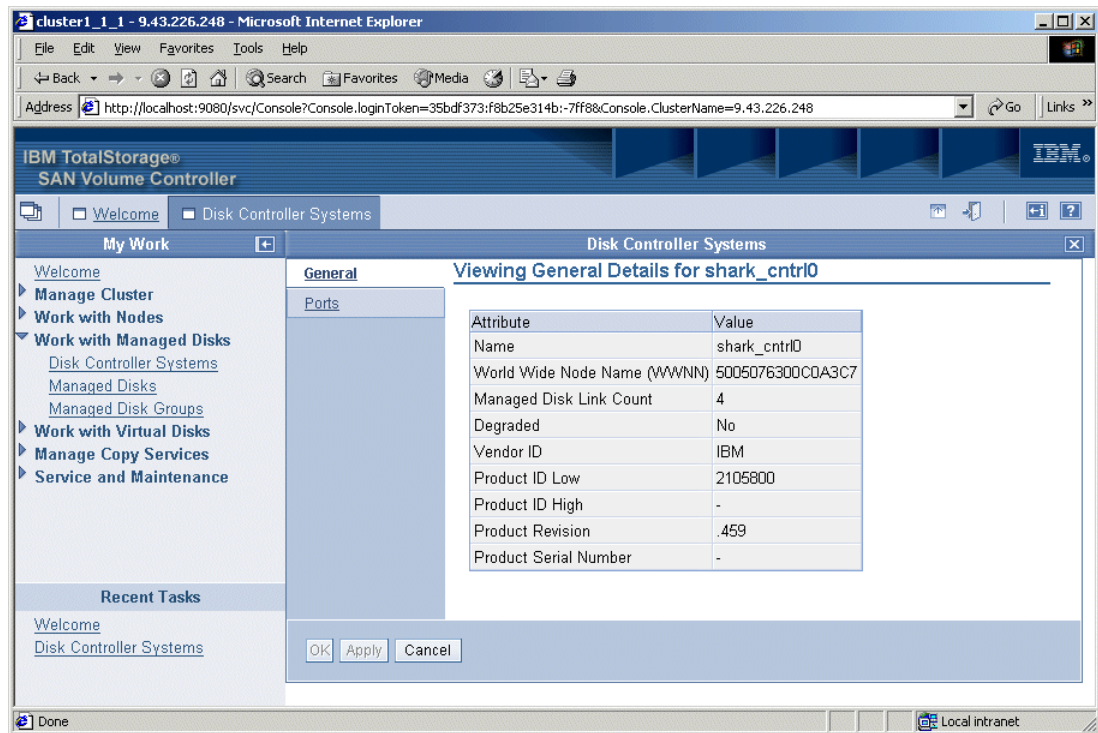

Figure 9-27 Viewing general details about a disk controller
3. The Viewing General Details for *IDname* panel (Figure 9-27) opens (where *IDname* is the ID you selected). Review the details and click **Cancel** to return to the previous panel.